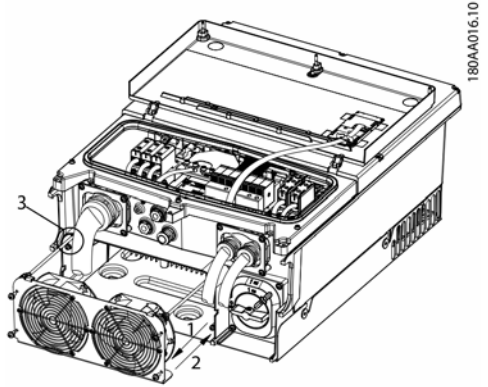

Figure 1.4
1. Insert the two black cables (one cable on each side) through the opening at the bottom of the inverter. See (3) in figure 1.4.
2. Insert the new fan unit. See (2) in figure 1.4. Lead the cables in the inside of the inverter while pressing the fan unit in the enclosure. Tighten the four screws (2.5 Nm).
5. Take out the fan unit. See (1) and (3) in figure 1.4.